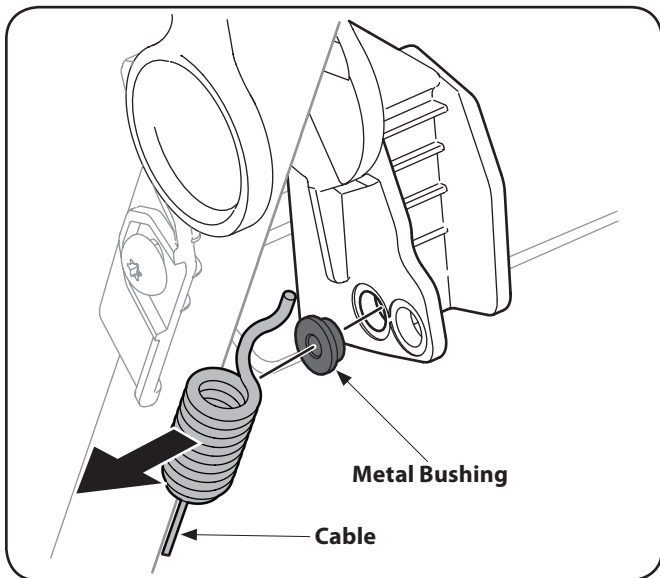

Figure 27
3. Unhook the cable and remove the metal bushing from the plastic drive handle. See Figure 27.